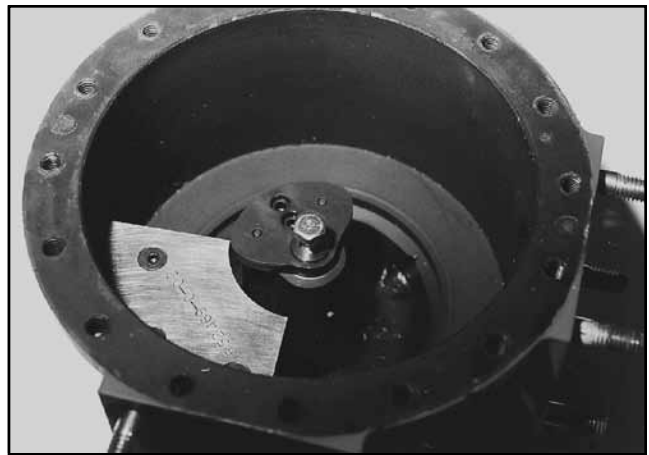

Figure 60
4. Position new cam on center hub by placing it over top of cam setting bushing as shown in Figure 60.
6. Place cam setting fixture (see suggested Tools and Fixtures, Page 2) on bottom shelf, Figure 60, and slide between cam face and measuring chamber wall.